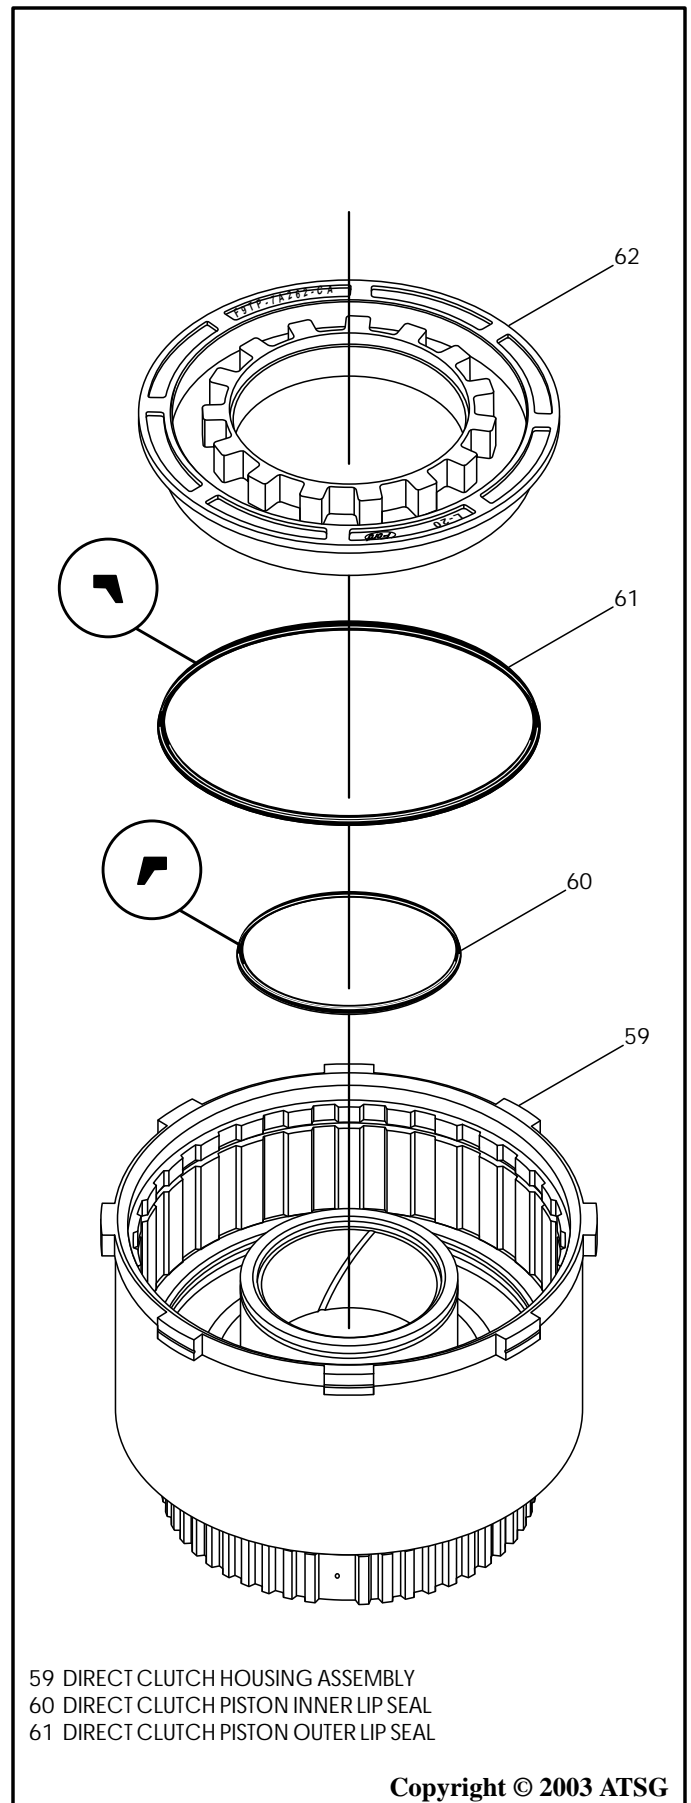

Figure 117
10. Turn the direct clutch housing over on a flat work surface, as shown in Figure 117.
11. Install the inner direct clutch piston lip seal in the groove in drum, with the lip facing in the direction shown in Figure 117.
12. Install the outer direct clutch piston lip seal in the groove in drum, with the lip facing in the direction shown in Figure 117.
14. Install the direct clutch piston assembly into direct clutch housing with a twisting motion, using care so as not to damage the lip seals. (See Figure 117).